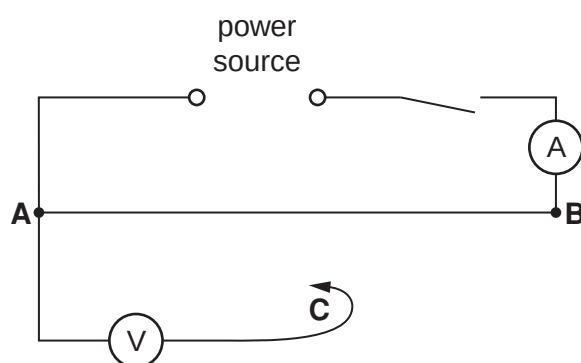

Fig. 3.1
- (v) Two suitable terminals (e.g. crocodile clips) attached to the constantan wire at the ends of the metre rule so that connections can be made to the circuit shown in Fig. 3.1.
- (viii) Sufficient connecting leads to set up the circuit shown in Fig. 3.1.
1. The circuit shown in Fig. 3.1 must be set up for the candidates.